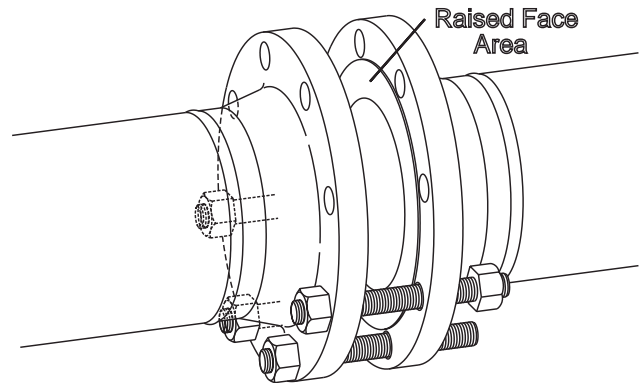
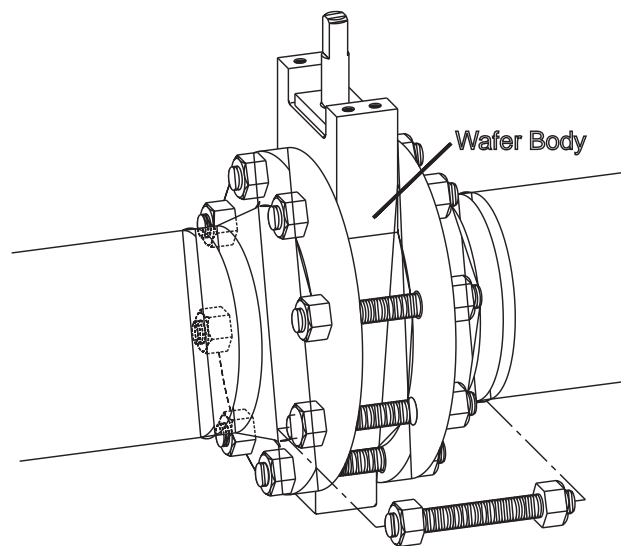

Figure 10
Figure 11
2. When installing wafer body valves, install lower flange bolts without tightening (Figure 10). Position valve and flange gaskets between flanges, within the pocket formed by the flange bolts. Install the remaining flange bolts, taking care that the gaskets are centered on the flange faces. (Figure 11)
5. Tighten all bolts or cap-screws in a crossover or star pattern to insure even sealing (Figures 11 and 12).